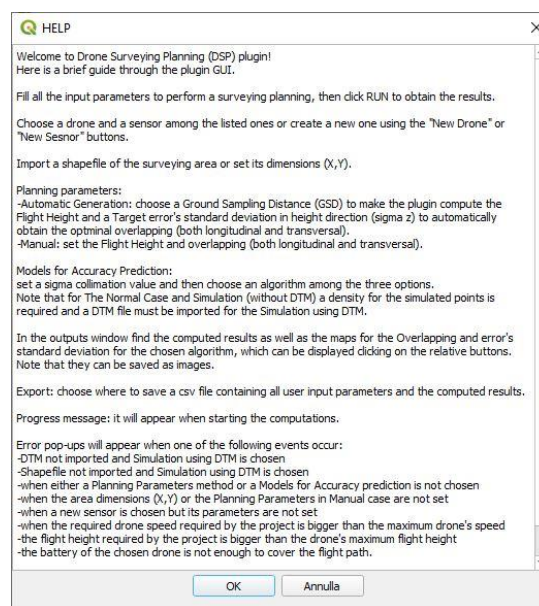

Figure 7
- HELP: the user can open a window where some relevant explanation about the GUI sections and input parameters is given, as well as an explanation of the source of the popup errors. (See Figure 7)